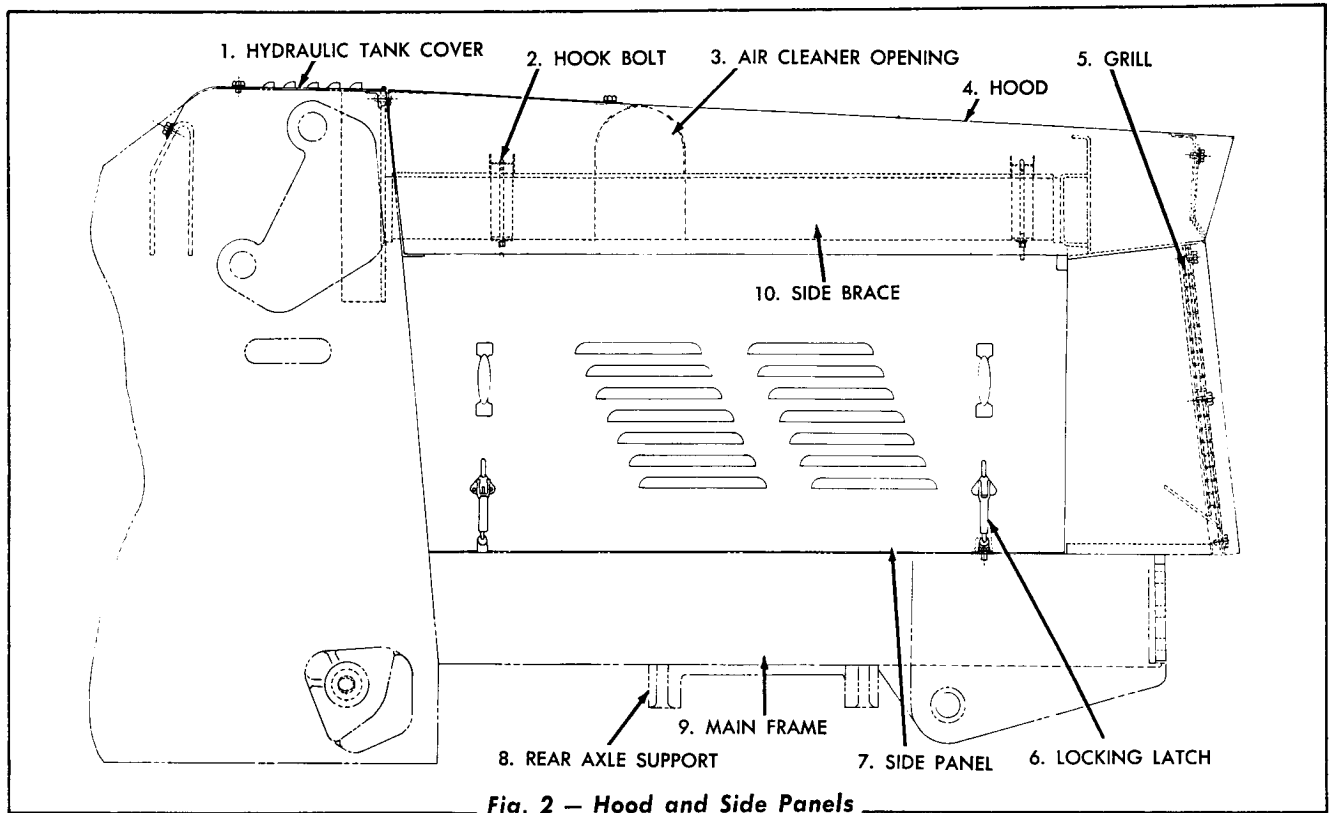

Fig. 2 — Hood and Side Panels
1. Remove the engine side panels, the hood, and the hydraulic tank cover plate (Fig. 2).